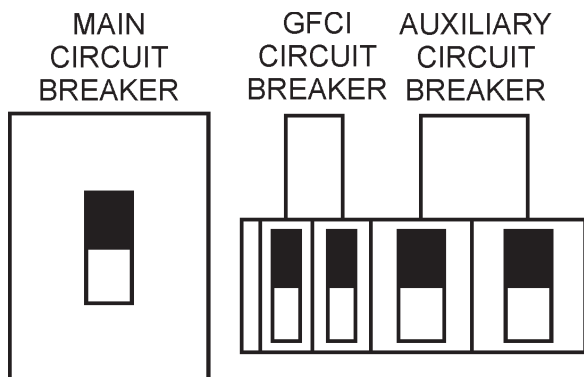

Figure 51. Main, AUX. and GFCI Circuit Breakers (ON)
- Turn the **main**, **GFCI**, and **aux.** circuit breakers to the “**ON**” position (Figure 51).